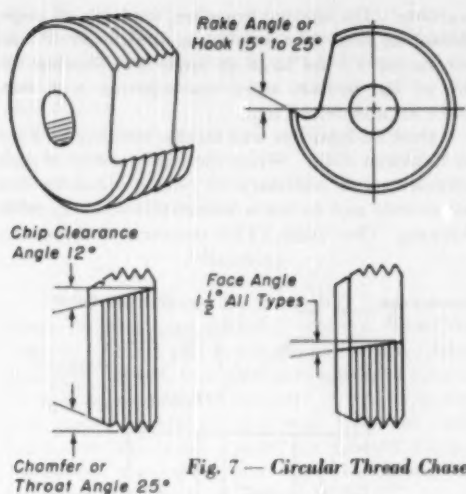

Fig. 7 — Circular Thread Chaser
2. The circular type is really the universal thread chaser, as it is adaptable to all types of threads and will work equally well on tubing. This type of chaser, Fig. 7, generally works well with a 25° throat angle.